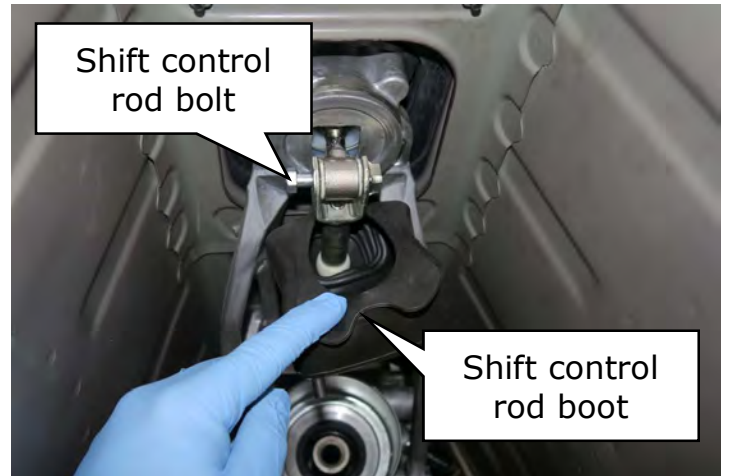

Figure 15
17. Disconnect the shifter assembly from the transmission. (Figure 15)